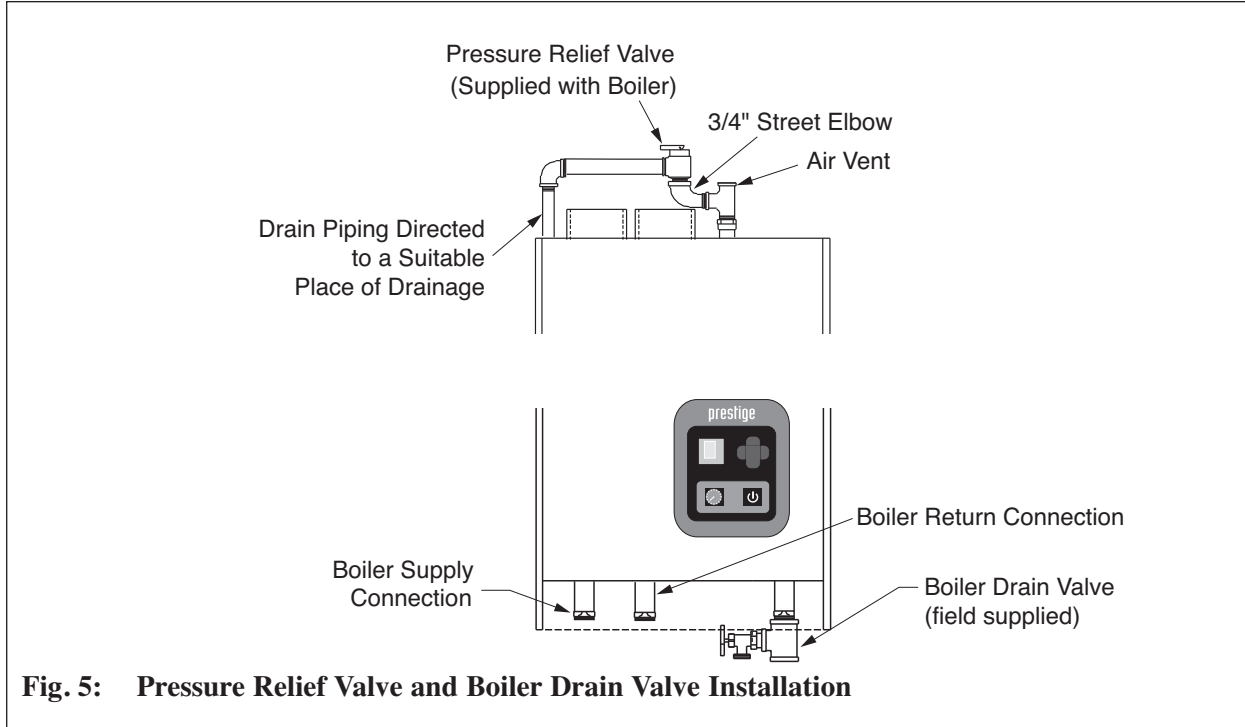

Fig. 5: Pressure Relief Valve and Boiler Drain Valve Installation
1. The PRESTIGE Excellence is supplied with a 30 psi pressure relief valve and must be piped using the PRV connection as shown in Fig. 5 page 15.